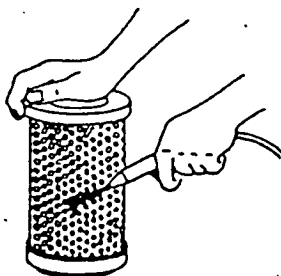

Figure 14
- Blow clean with compressed air (Figure 14):